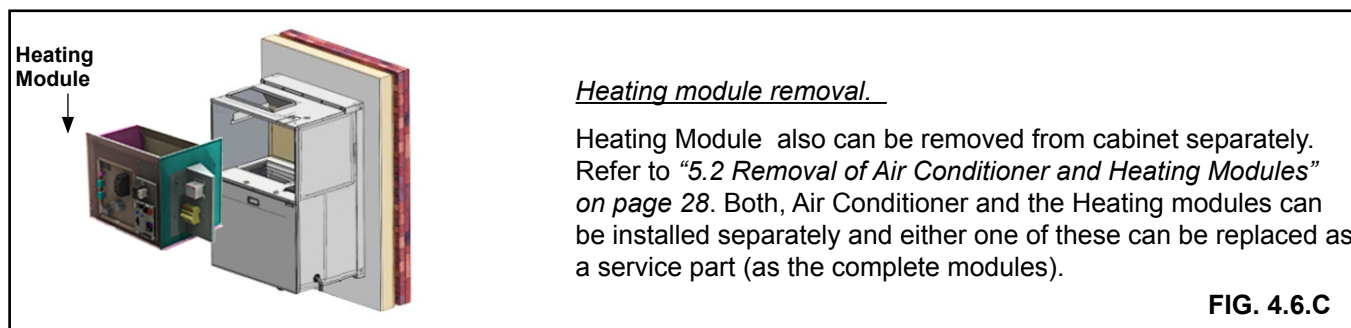

FIG. 4.6.C
- d. Use a flat washer with each 1/4"-20 x 1 1/4" screw. Secure Condo Pack unit to the Wall Sleeve using five 1 1/4" screws through the isolation grommets in the five holes on the Wall Sleeve top mounting bracket (see FIG. 4.6.D).